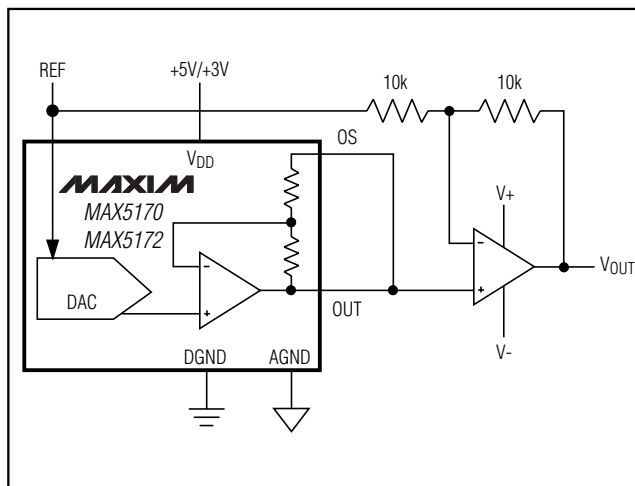

Figure 8. Bipolar Output Circuit
Figure 8 shows the MAX5170/MAX5172 configured for bipolar output operation. The output voltage is given by the following equation (OS = AGND):
where N represents the numeric value of the DAC's binary input code, VREF is the voltage of the external reference. Table 3 shows digital codes and the corresponding output voltage for Figure 8's circuit.
**Table 3. Bipolar Code Table (Circuit of Figure 8)**